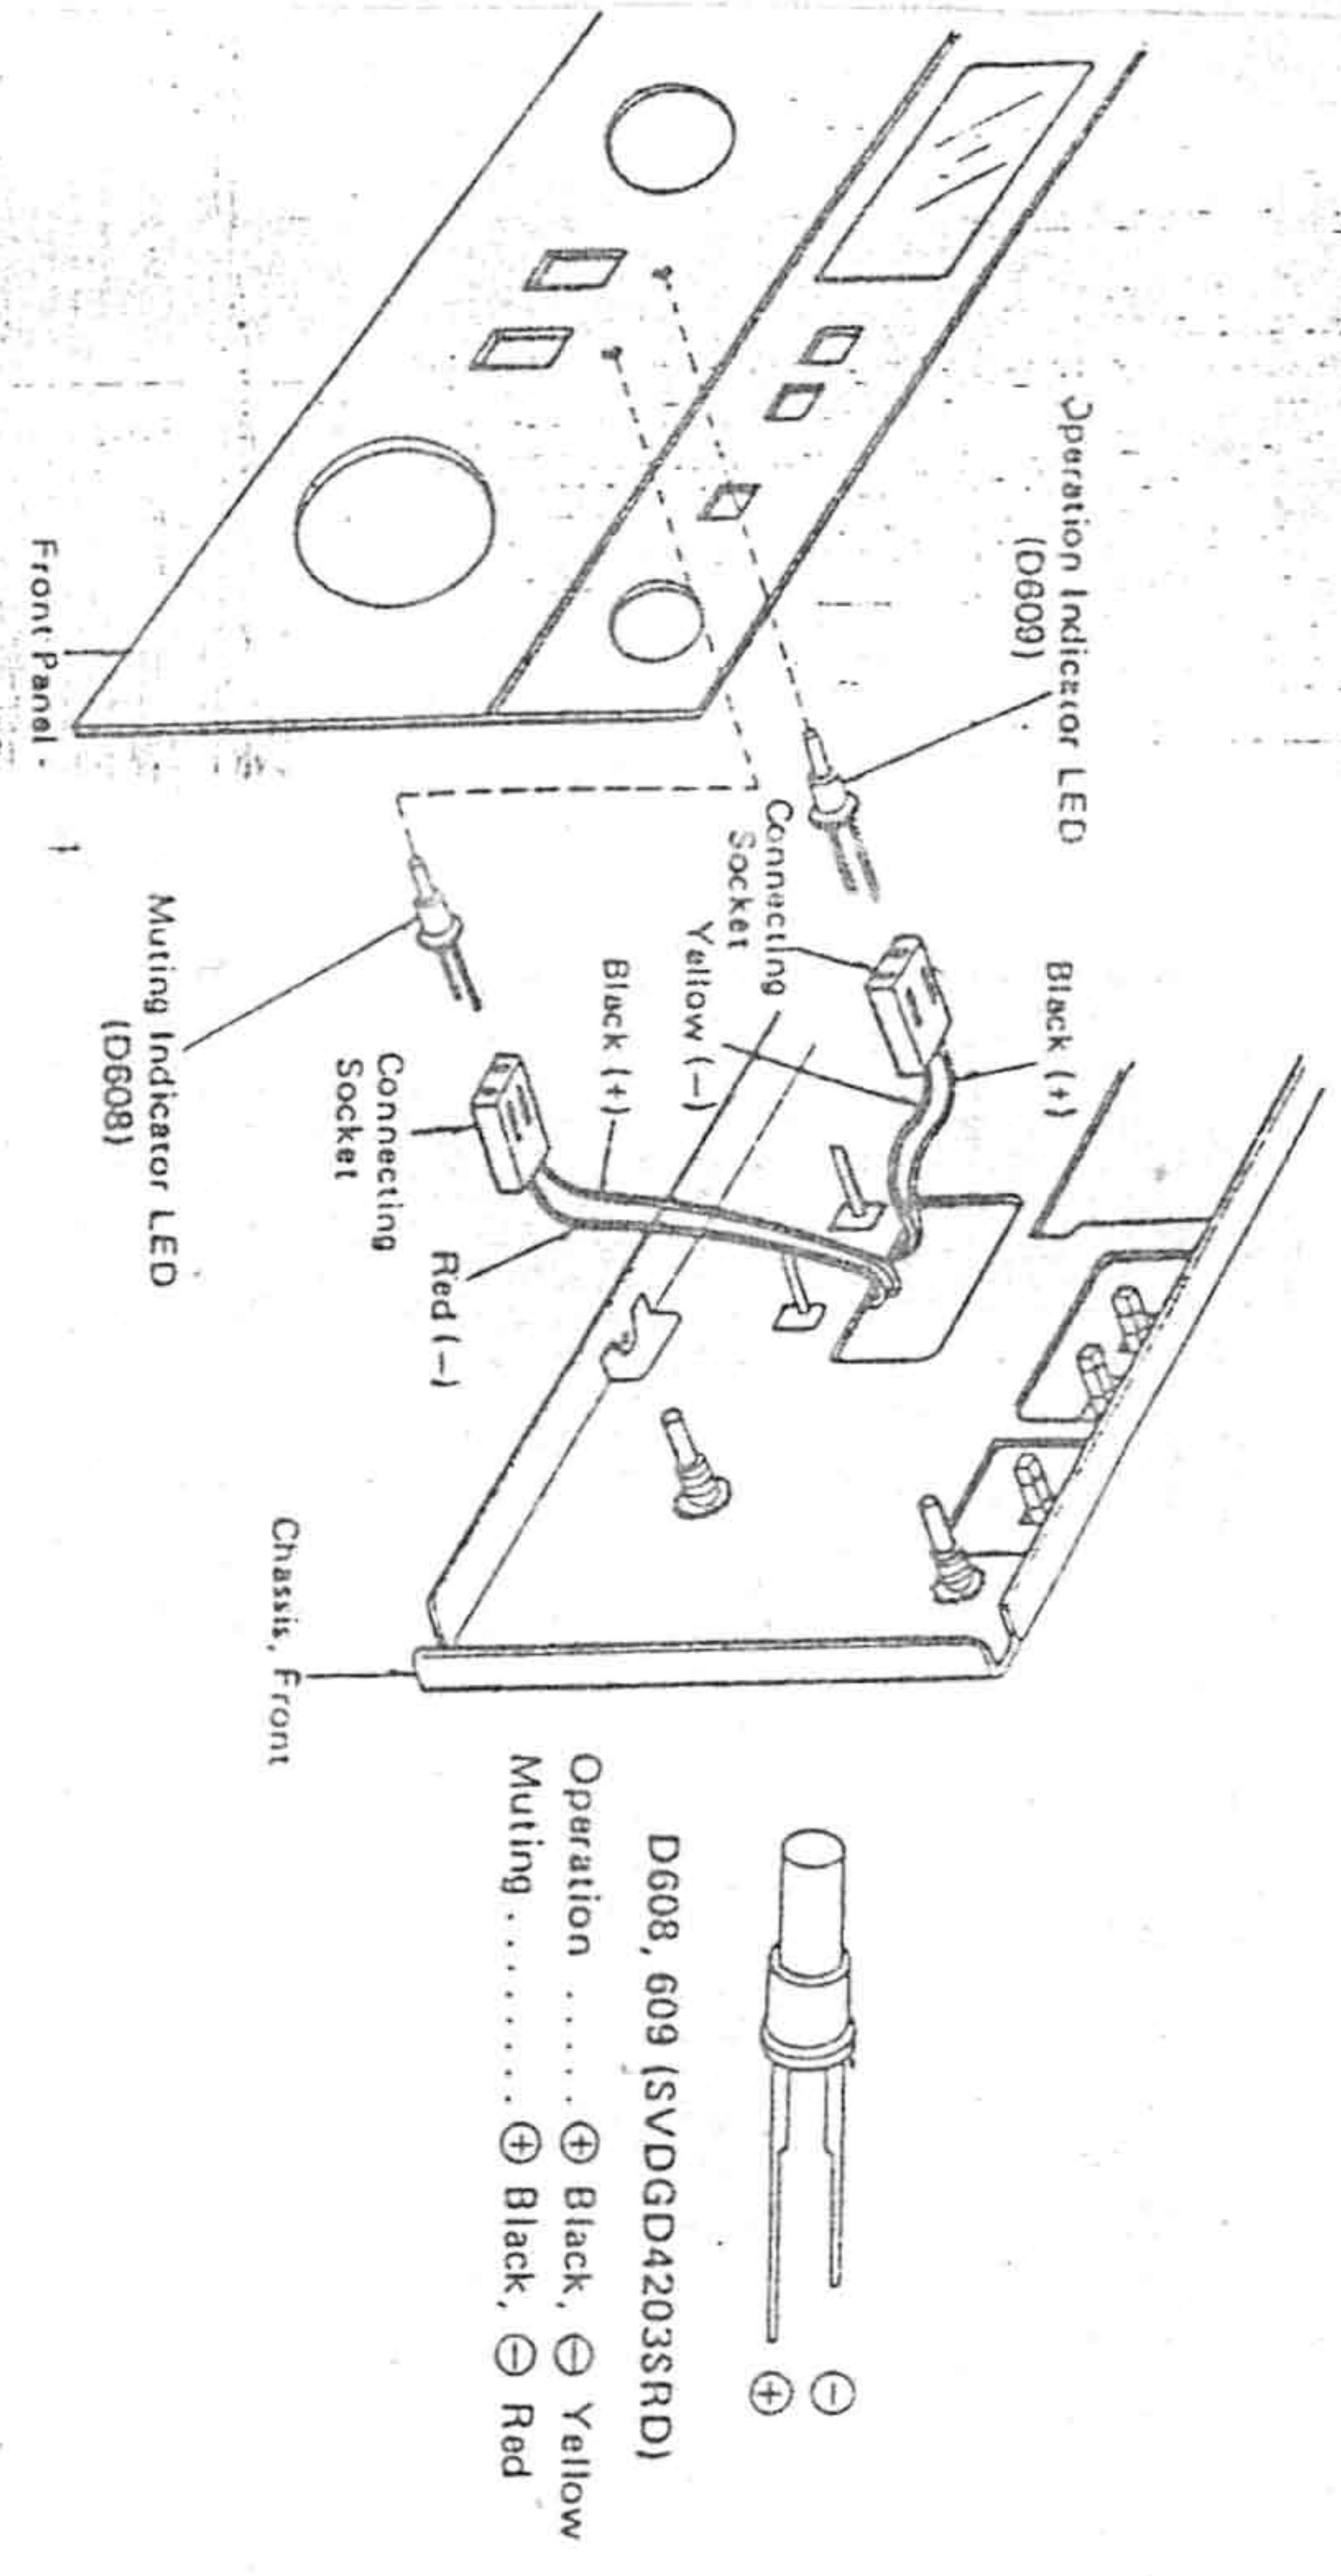

Fig. 1
- When connecting the indicator connecting sockets for operation and muting to indicator LED's (D608, 609), be careful of the polarity. (See Fig. 1)
- 4) Adjust R523 (L ch) while observing the FL power meter until the first segment is about to turn on. (0.3W position of X0.1 range). Refer to fig. 1.